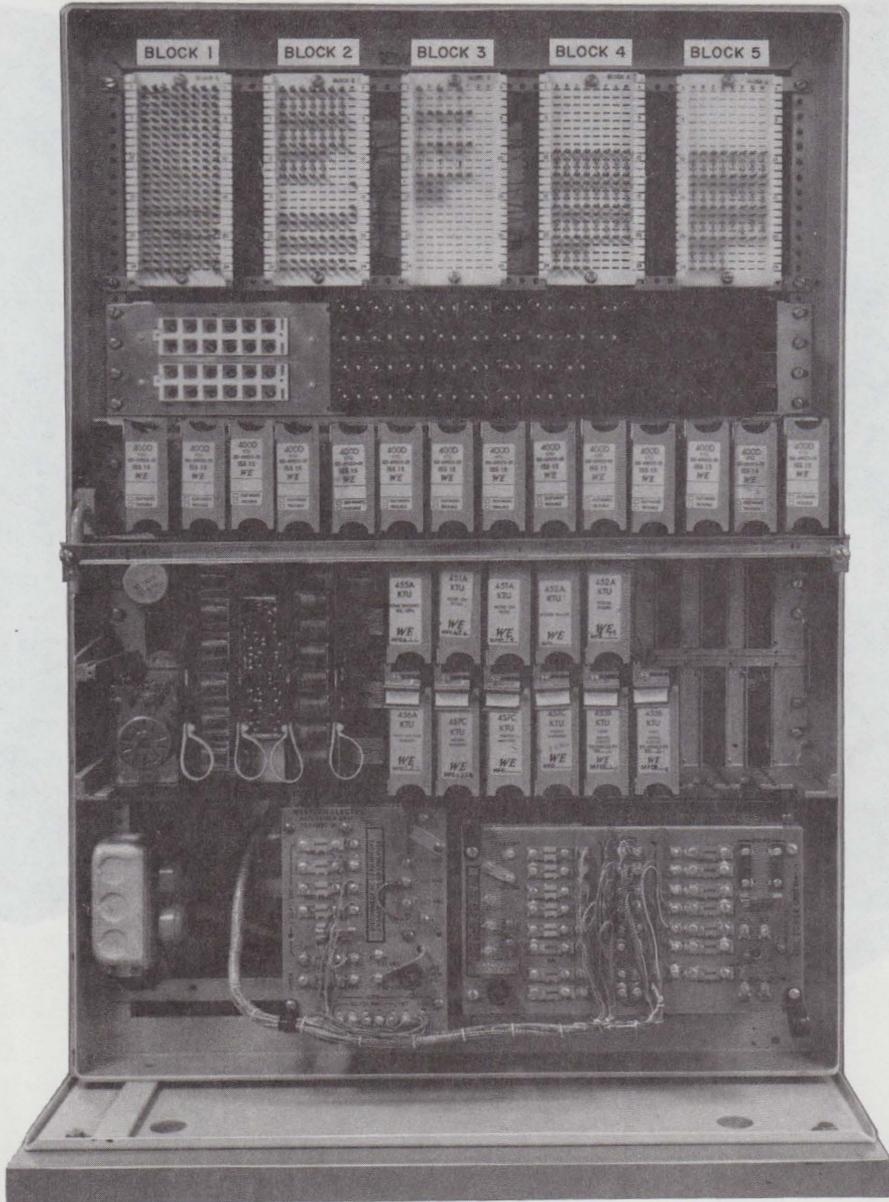

Fig. 1—580-Type KSU (Cover Removed)
2.07 The 580A (MD) KSU (Fig. 1 and 2) is a 120A apparatus box with a removable front and rear cover and is designed for floor mounting only (Fig. 1 and 2). It contains the following components: